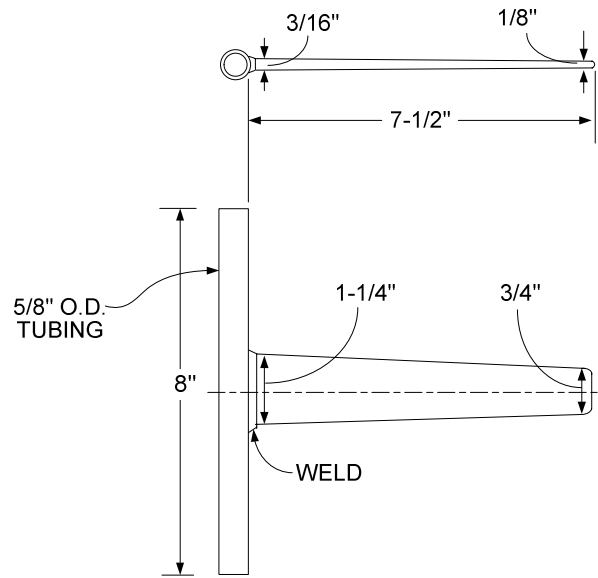

Figure SG-101-7. Coil Spacing Tool
Special Tools Required: Same as for DISASSEMBLY, plus a coil spacing tool as shown in Figure SG-101-7.
- e. Space the Coil tubes evenly throughout the Generator, with each tube space at least 1/2" wide. It is especially important that no tubes rest on any Coil unions. A spacing tool may be made up similar to that shown in Figure SG-101-7 (available from AERCO, Part No. 12523). Insert the tool flat between the Coil tubes and twist the tool until the desired spacing is obtained.
- R3. Clean all gaskets and gasket surfaces thoroughly. AERCO recommends that new gaskets (13) be used whenever reassembling either the top or bottom head to the shell.
- R4. If the Generator Top Head (1) has been removed from the Shell (11):
- a. Clean the Gasket surfaces thoroughly and place a Gasket (13) (a new Gasket is recommended) on the Shell top flange.
- c. Reassemble the Studs (3) and (12), the Lifting Lugs (Eye Bolts) (2), and Nuts (14) into the Head and Shell flanges. Cross-tighten the Nuts to approximately 75 ft-lb torque to obtain uniform seating. Then, progressively tighten the Nuts to approximately 150 ft-lb torque for a tight seal.
- d. Realign the Tubing (23) and reconnect the Compression Fittings (25) to their connections at the top Head.
- R5. Place the Gasket (13) on the Generator bottom Head flange.
- R6. Using a hoist or block and tackle attached to the Lifting Lugs (2) on the Generator top Head (1), CAREFULLY lower the top Head and Shell STRAIGHT DOWN over the Coil and Riser assembly. DO NOT SCRAPE the Shell lining against the Coil tubing.